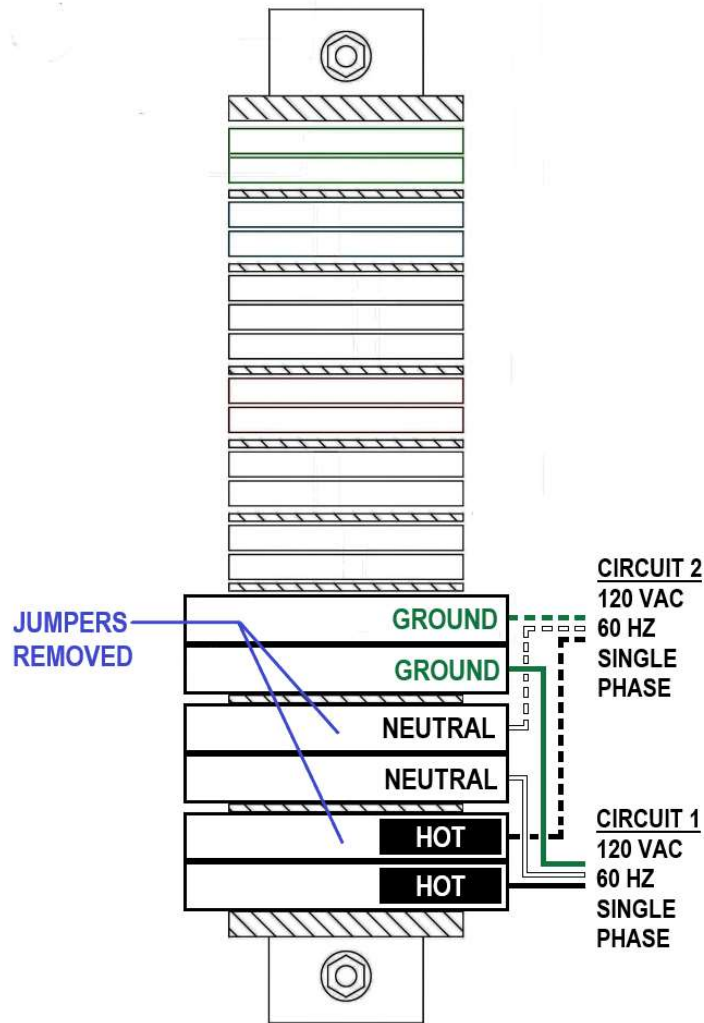

Figure 5 - Wiring Diagram
3.2.4.5 Power Connection - Assemblies With Control Panel - Two (2) Power Circuits
- Refer to **Figure 5**.
- Follow these instructions when the authority having jurisdiction **DOES NOT** permit one (1) power circuit to supply both the control panel and the nitrogen system.
- Remove factory-installed jumpers from terminal blocks. Connect two (2) power circuits to indicated terminals. Power will be supplied separately to the control panel and the **NITROGEN-PAC™**.